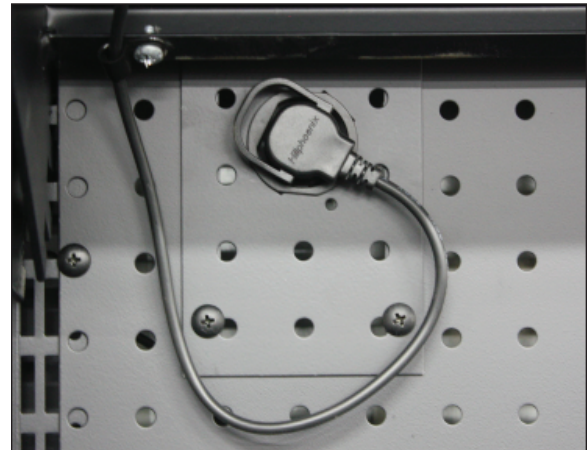

Fig. 5 LED light power cord
1. Unplug the luminaire (Fig. 5).